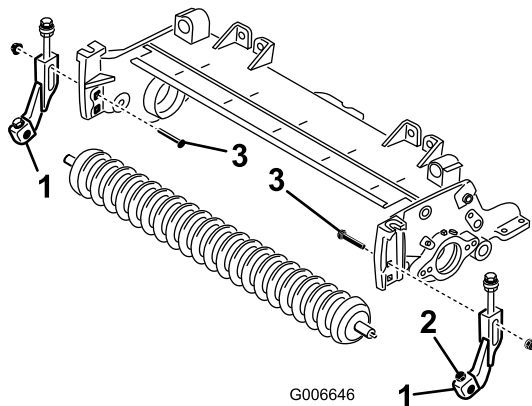

Figure 6
11. Center the roller between the height of cut brackets and lock it in place with the capscrews and locknuts on the brackets (Figure 6).